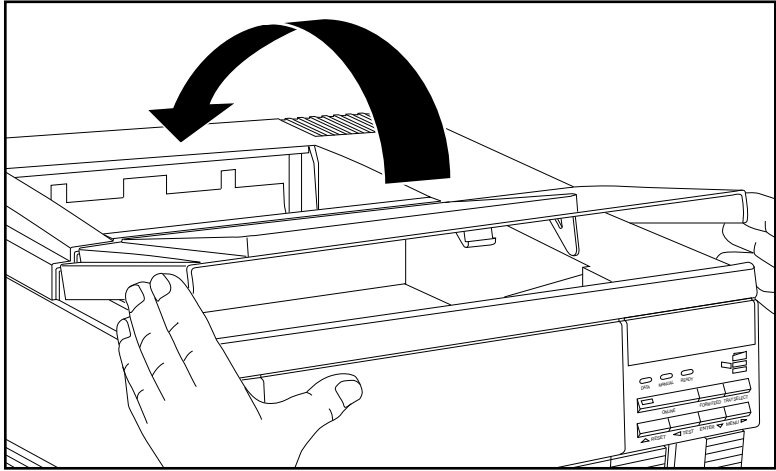

Fig. 8.1 Open the Top Cover
2. Open the top cover by pressing the raised finger grips and lifting up and back approximately 180° (fig. 8.1).